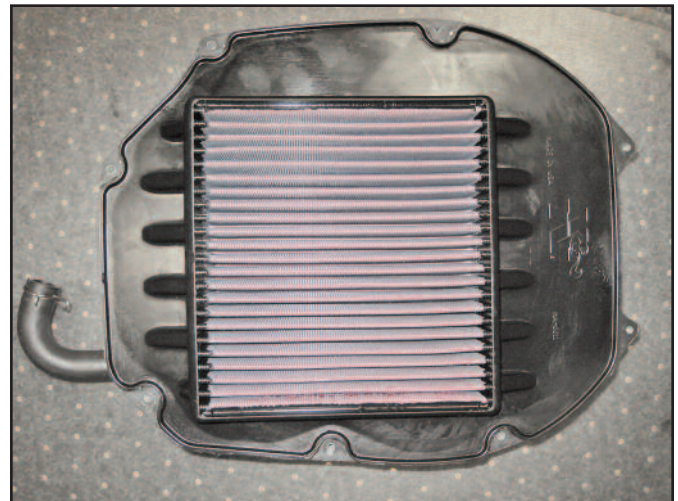

Fig. 2
- 7) Install the K&N® Air Filter in the air box. (Fig. 2)